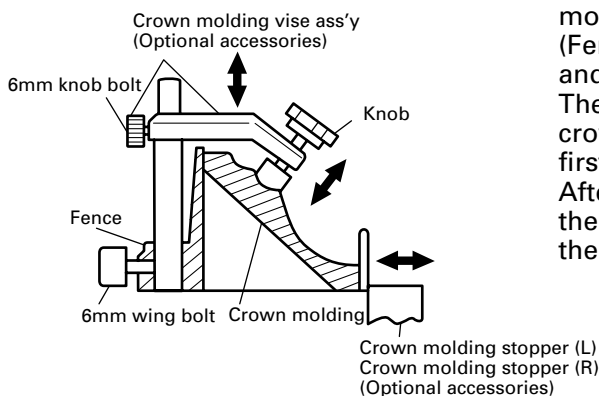

Fig. 40-b
- (1) Crown molding Stopper (L) and (R) (optional accessories) allow easier cuts of crown molding without tilting the saw blade. Install them in the base both-sides side to be shown in Fig. 40-a. After inserting Tighten the 6mm knob bolts to secure the crown molding Stoppers.
- Crown molding Vise Ass'y (Include Crown molding Stopper (L))
- Crown molding Stopper (L)
- Crown molding Stopper (R)